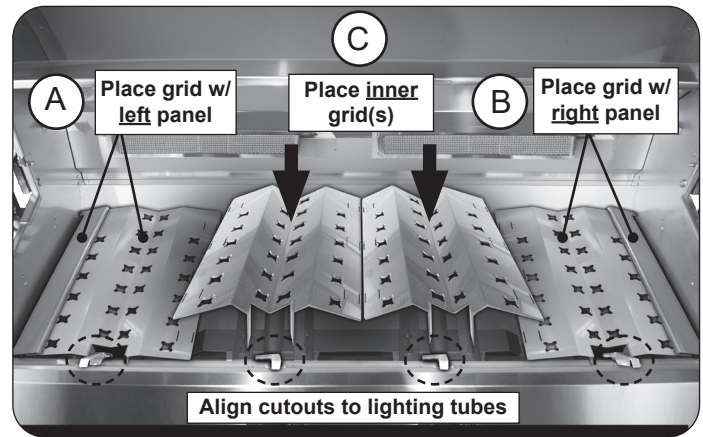

Fig. 24-1 Install flavor grids
1. Locate the flavor grid with the pre-attached **left panel** (see Fig. 24-1, A).
2. Carefully rest the grid onto the front and rear flavor grid rests while ensuring the flavor grid cutout clears the left-most lighting tube. See Fig. 24-1, A.
3. Locate the flavor grid with the pre-attached **right panel** and place it on the right side of the grill (see Fig. 24-1, B).
4. Take the remaining inner grids and carefully place them between the left and right flavor grids (see Fig. 24-1, C).